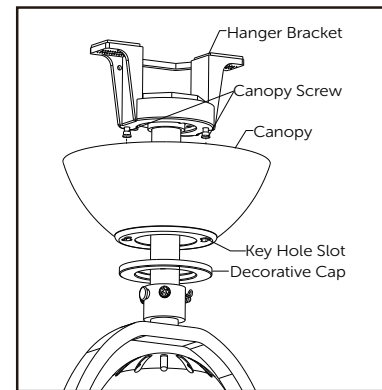

Fig. 9
9. Loosen two canopy screws part way, and then push the canopy upwards by inserting canopy screw heads into key hole slots, rotate the canopy till it is locked in place, and finally tighten canopy screws (Fig. 9). Attach the decorative cap to canopy, and rotate it clockwise until tight.